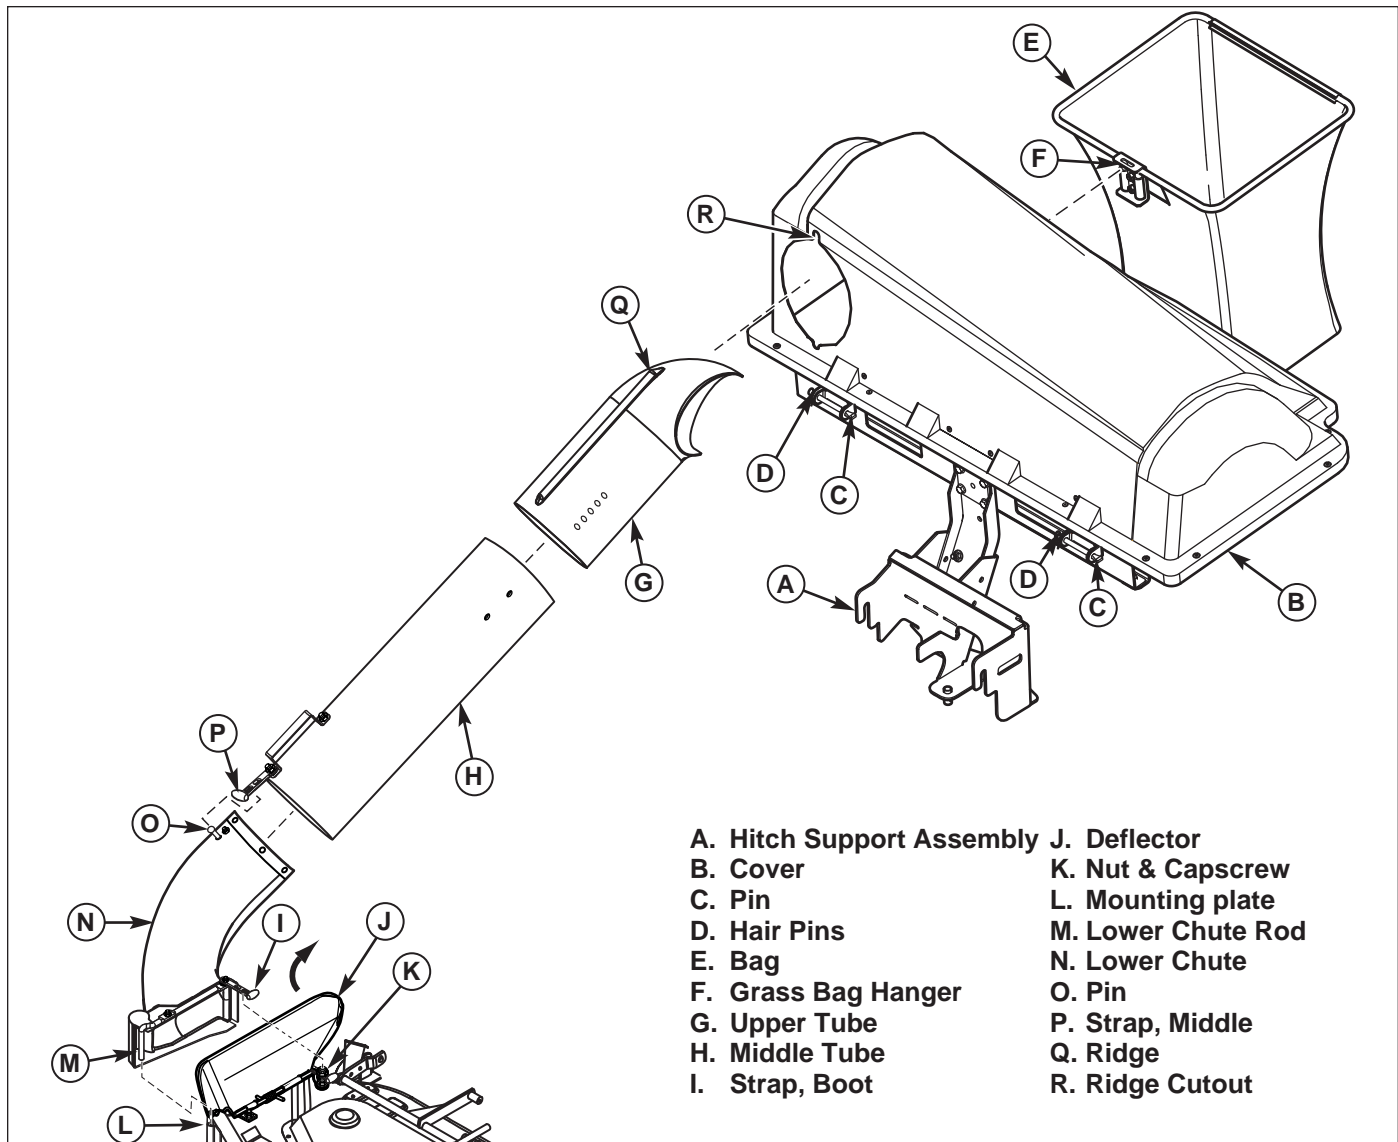

Figure 15. Normal Installation & Removal
1. Mount the hitch support assembly (A, Figure 15) onto rear tractor frame.
2. Attach cover (B) to support assembly using pins (C) and hair pins(D).
3. Pivot cover (B) up. Install bags (E) by attaching grass bag hanger (F) to support assembly (A).
4. Lift discharge deflector (J) up. Insert lower chute rod (M) into mounting plate (L). Pull strap (I) and secure by placing hole closest to knob in strap completely over locknut and capscrew (K).
5. Slide the upper tube (G) into cover (B) aligning ridge (Q) with cutout (R) as shown.
6. Slide middle tube (H) into upper tube (G). Slide middle tube (H) over lower chute (N). Pull strap (P) and place hole completely over pin (O).
1. Unhook strap (P, Figure 15) from pin (O). Slide middle tube (H) into upper tube (G) and remove middle tube (H). Remove upper tube (G) from cover (B).
2. Lift up cover (B) remove and empty bags (E).
3. Unhook strap (I) from locknut and capscrew (K). Remove lower chute (N) from mounting plate (L). See that the discharge deflector (J) returns to the DOWN position.
4. Remove hair pin (D) and pins (C) then remove cover (B).
Note: To prevent loss of parts, reinstall pins (C) and hair pins (D) in support assembly hinge pivots (E, Figure 15).
5. Remove hitch support assembly (A).